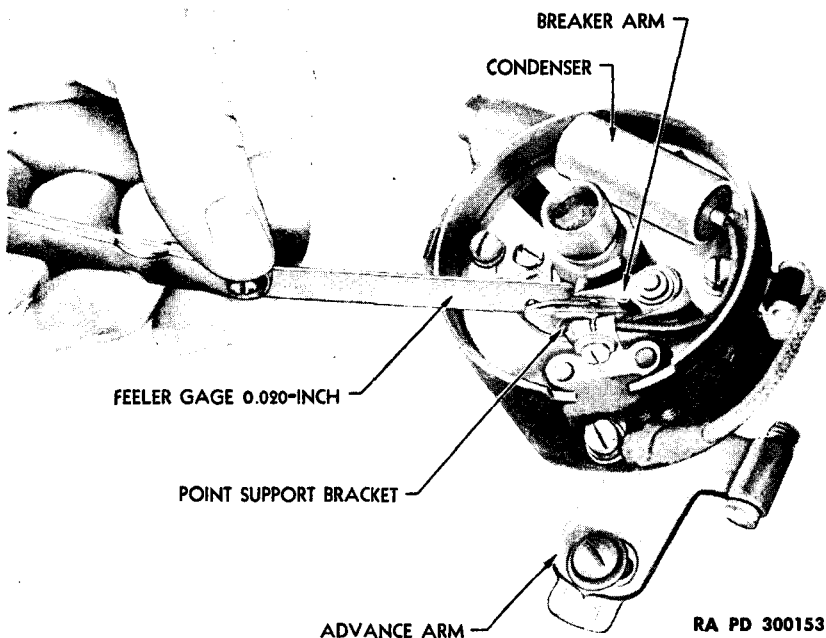

Figure 62—Adjusting Distributor Contact Points
crank the engine until the breaker arm rubbing strip is on the peak of the cam. The contact points are then at maximum gap. Loosen stationary point mounting plate lock screw. With correct thickness feeler gage in position between points (fig. 62), adjust eccentric screw to right or left, increasing or decreasing gap until feeler gage just fills gap. (Gage can be inserted between points with barely appreciable friction.) Tighten lock screw and recheck gap.
a. Description. The condenser is mounted in the body of the distributor (fig. 62) secured to the support plate by a screw and connected through short lead across distributor breaker points. The condenser has the capacity to absorb or store up momentarily electrical energy surging in the primary circuit at the instant points "break" the circuit. This function of the condenser prevents point burning and arcing.